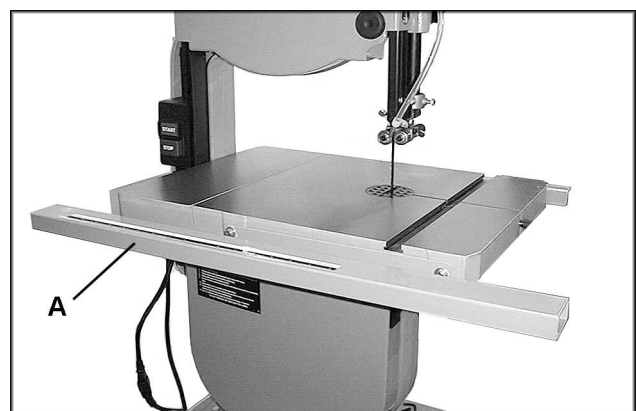

Fig. 15
4. Mount guide rail (A, Fig. 15) to the front rail using three M6 x 20 hex cap screws, three 1/4" lock washers and three 1/4" flat washers. Tighten the screws to secure the guide rail to the front fence.